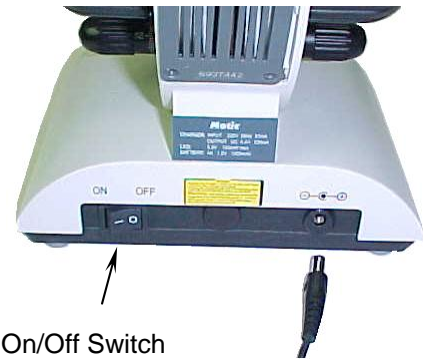

Fig. 1
1. Before using the microscope, adjust the light intensity control (23) to minimum position. This should be repeated every time the microscope is switched on or off to prolong the use of the bulb.
2. Press switch to position ON. (Fig. 1)